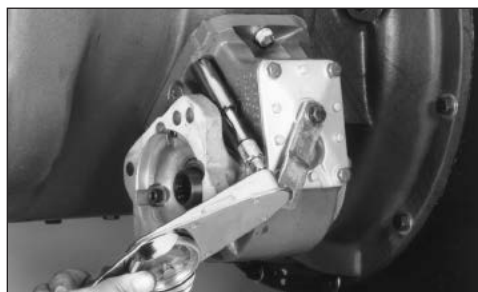

Figure 10
8. Torque fasteners to their proper specifications (**Fig. 10**).